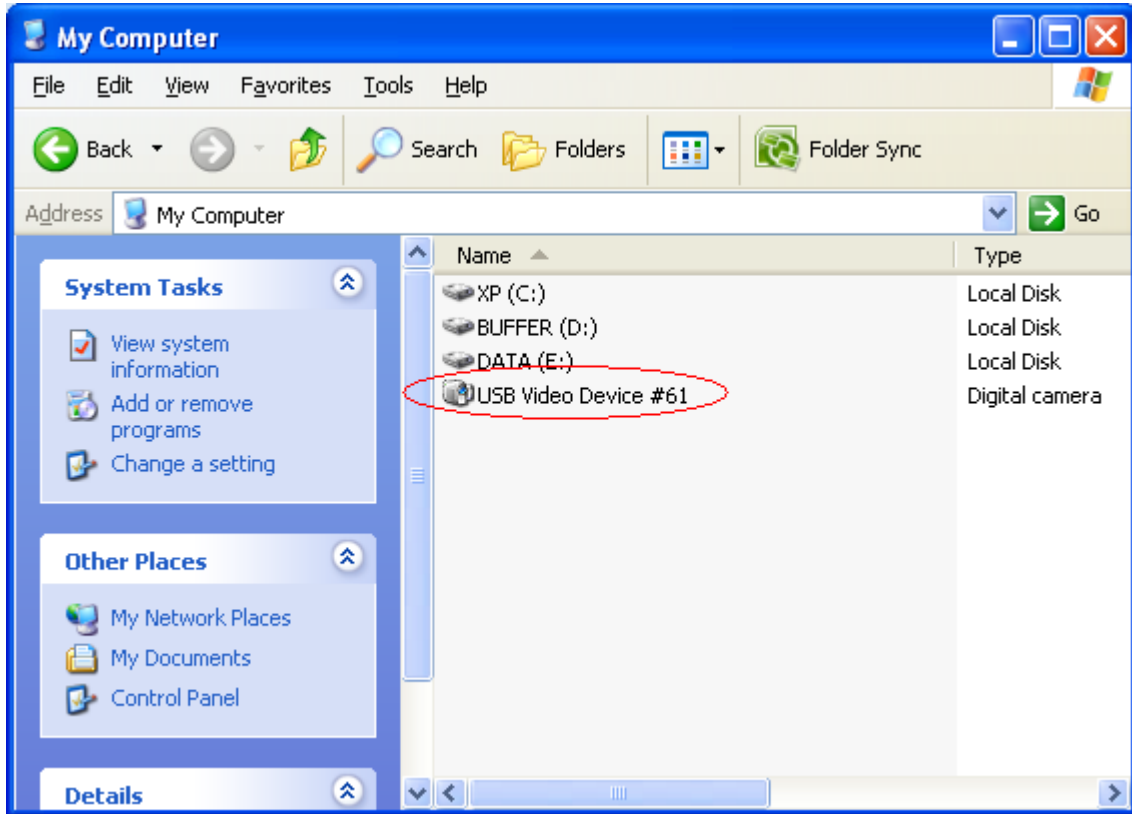

Figure L-10. Digital camera application
2. To verify whether the USB Video Device has been selected as the default device or not, you open My Computer icon. The Virtual camera will be identified as a Digital camera and appears as shown in Figure L-10